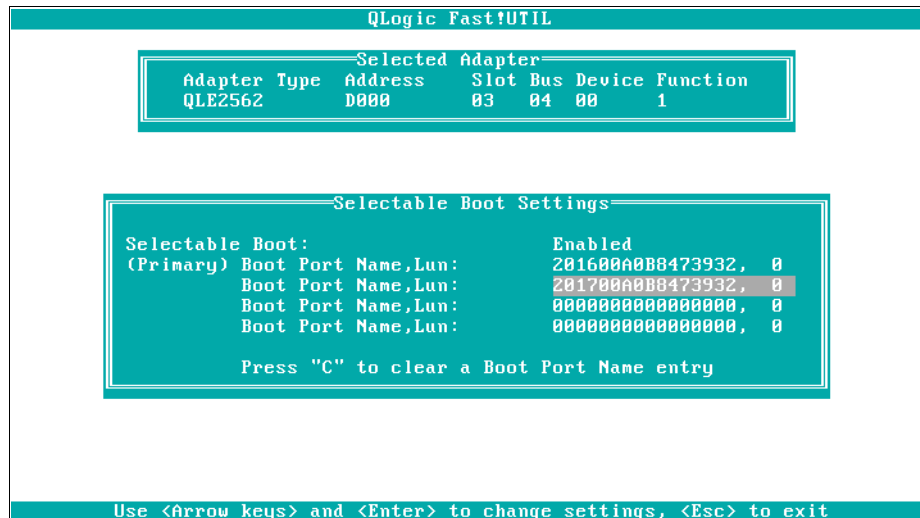

Figure 2-32 Adding the second controller to the QLogic
2. We need to add the second storage controller path as well. You can see that we have added both WWPNs for controller A and controller B, as shown in Figure 2-32.